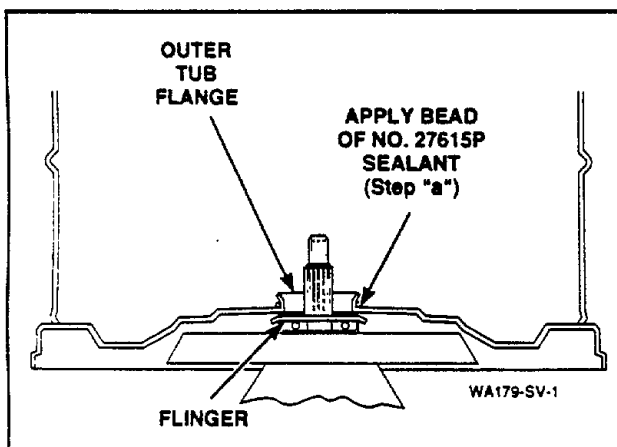

Figure 52
- a. Apply a small amount of 27615P Sealant, (supplied in kit) around outer surface of tub flange, *Figure 52*.
IMPORTANT: DO NOT allow sealant to contact the flinger, *Figure 52*, because this could prevent flinger from keeping moisture out of upper bearing.